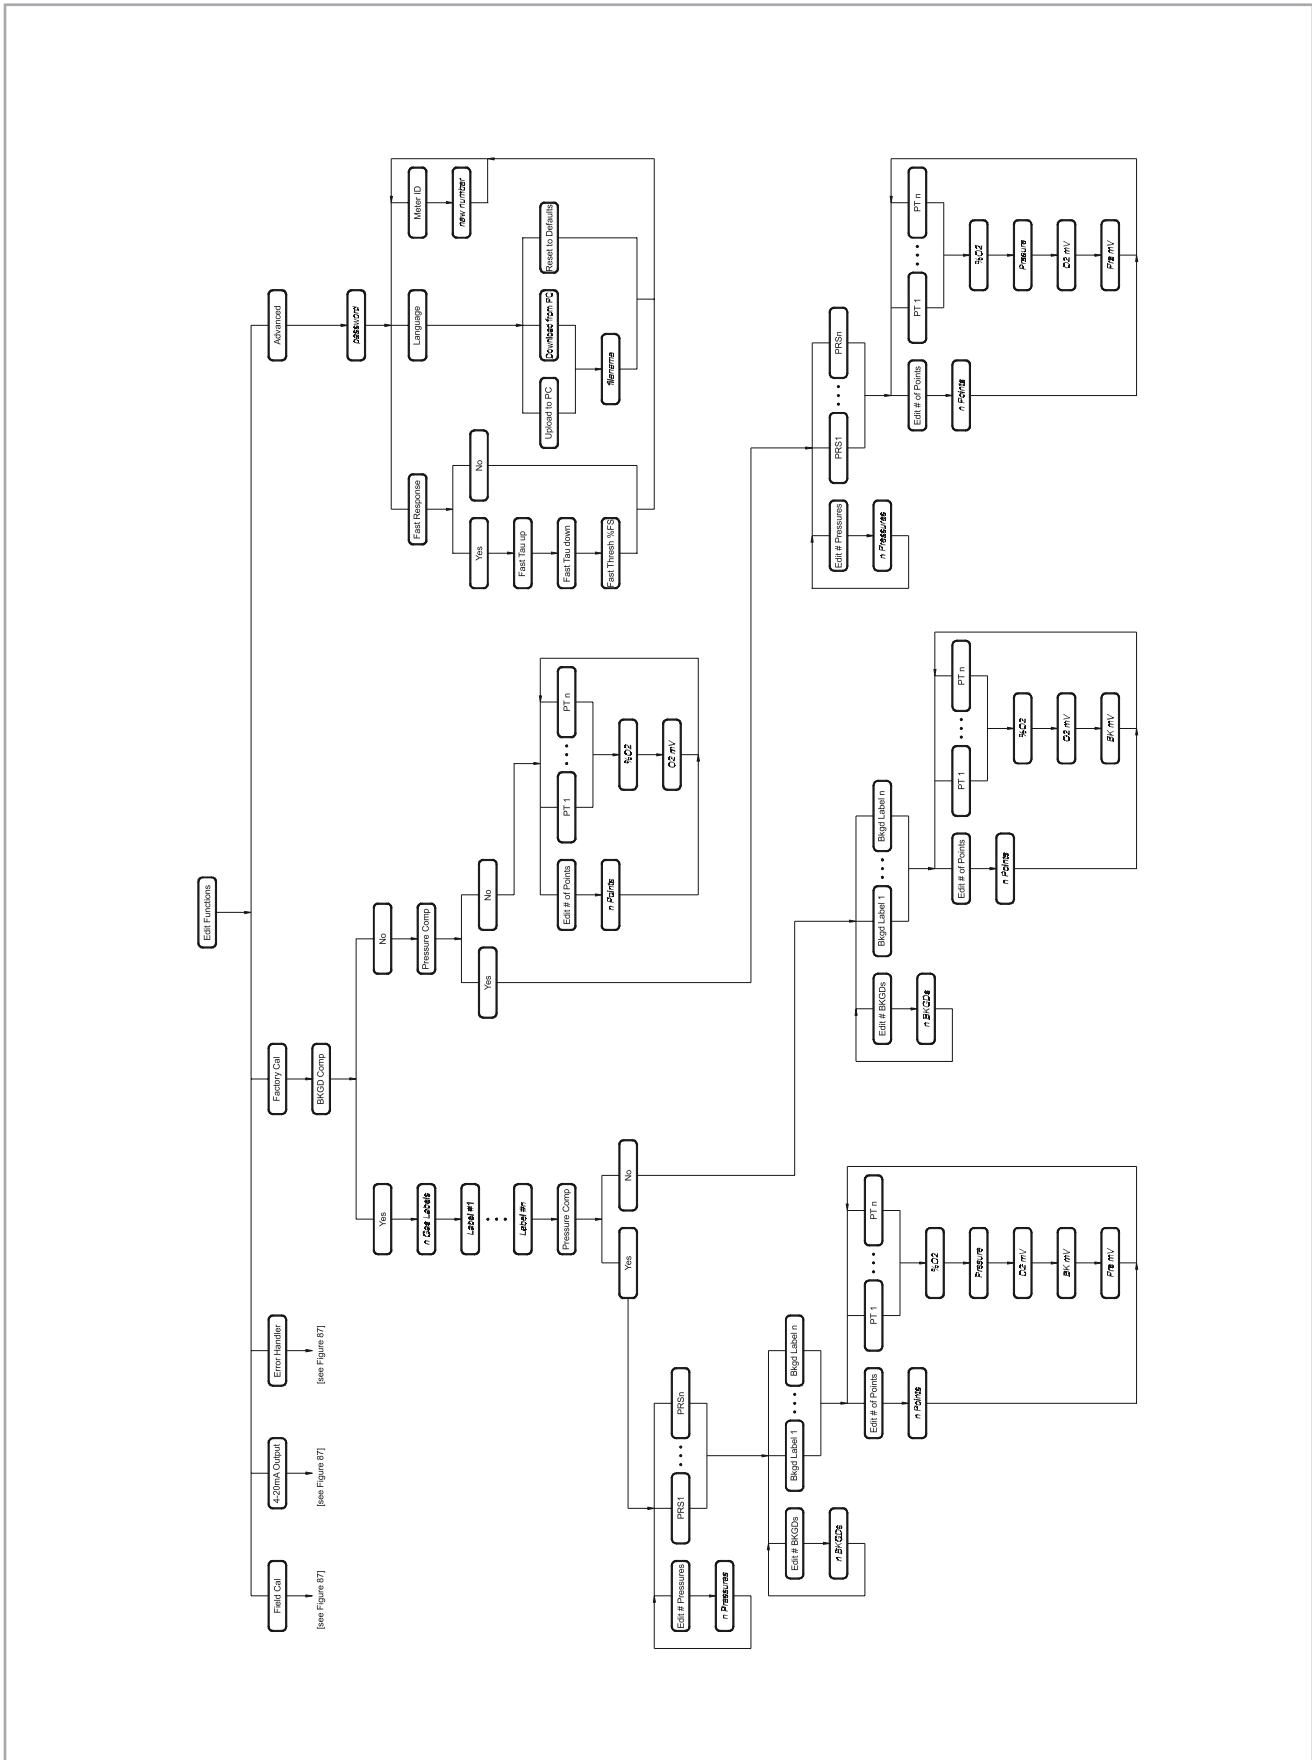
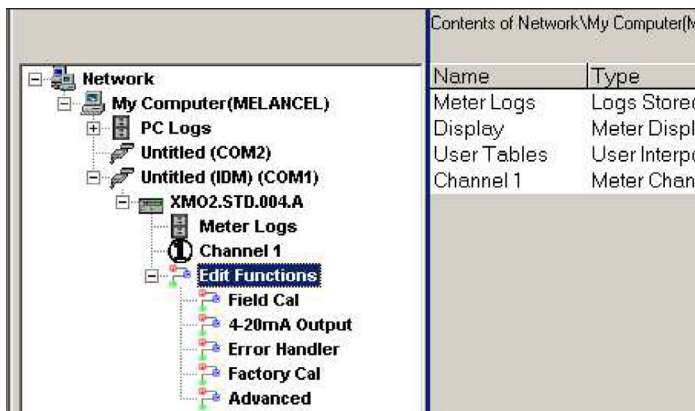

Figure 76: Factory cal and advanced menu map
Figure 84: Meter tree with edit functions option
- Figure 76, "Factory Cal and Advanced Menu Map," on page 63
4. From the meter tree, expand the *Edit Functions* option. The window now appears similar to *Figure 84* below, with a list of available menus. The five menus listed are those available through the IDM interface, as discussed in Chapters 3 and 4. Refer to the menu maps on *Figure 75* on page 62 and *Figure 76* on page 63 as a guide to programming.